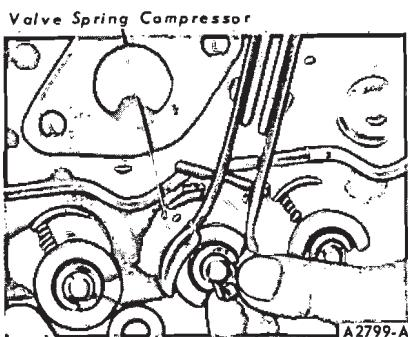

FIG. 16—Compressing Valve Spring—On Bench
4. Compress the spring and install the retainer locks (Fig. 16).
2. Compress the valve springs (Fig. 16). Remove the valve retainer locks and release the spring. If the valve locks are stuck, place a piece of steel tubing (3/4-inch OD, 1/2-inch ID and 3-inches long) over the end of the valve stem squarely against the sleeve surface. Tap the tube with a steel hammer to dislodge the locks.